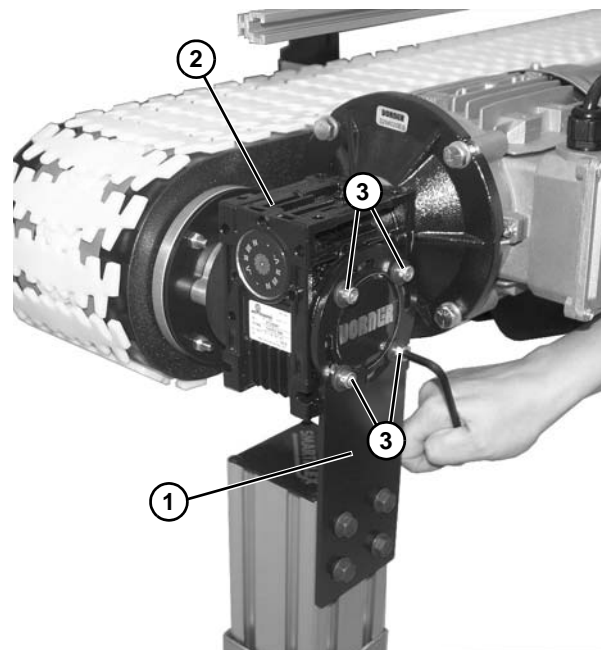

Figure 17
5. Install drive motor stand mounting bracket (Figure 17, item 1) onto the drive motor (Figure 17, item 2) with four washers and socket head screws (Figure 17, item 3).